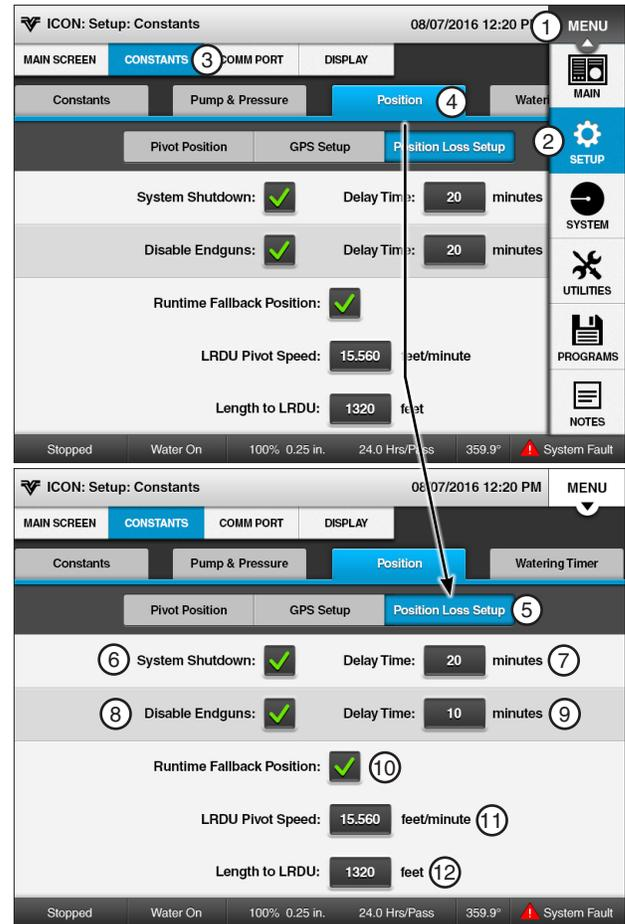

Figure 31-1
1. Check the **System Shutdown** checkbox. See Figure 31-1.
1. Check the **Disable Endguns** checkbox. See Figure 31-1.
1. Check the **Runtime Fallback Position** checkbox. See Figure 31-1.